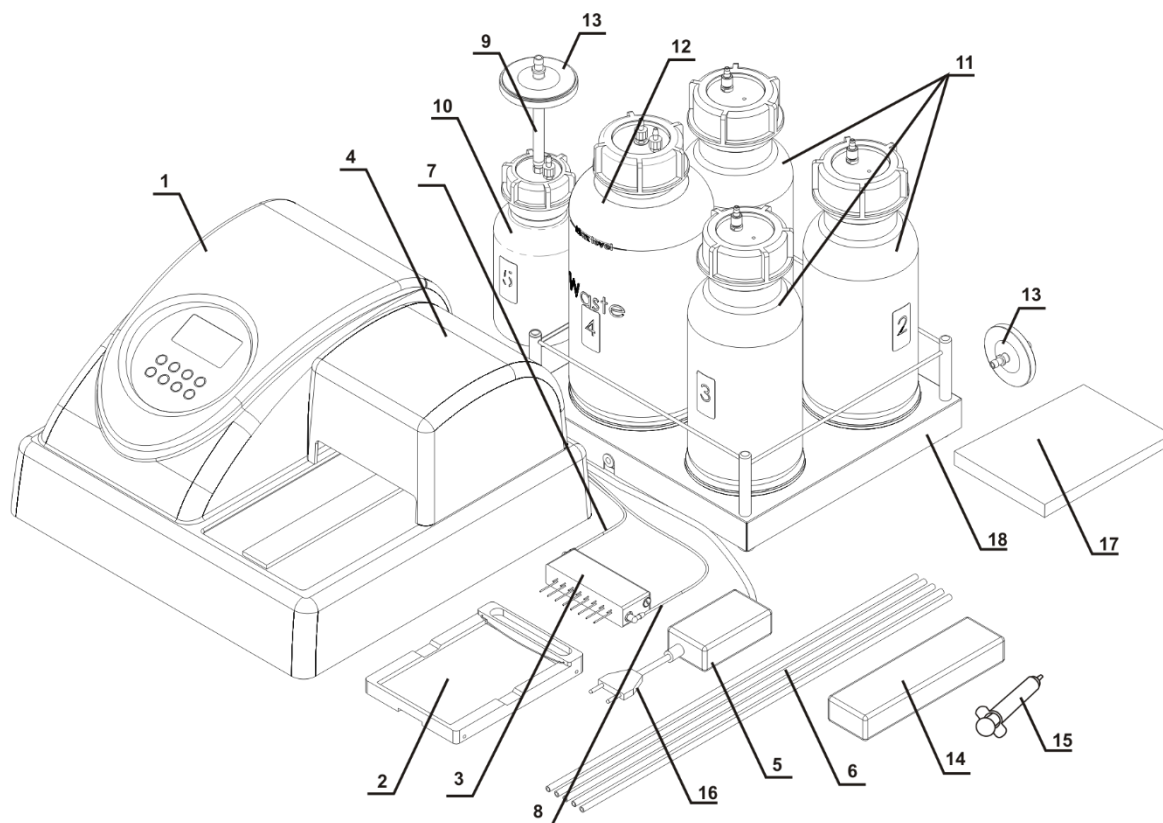
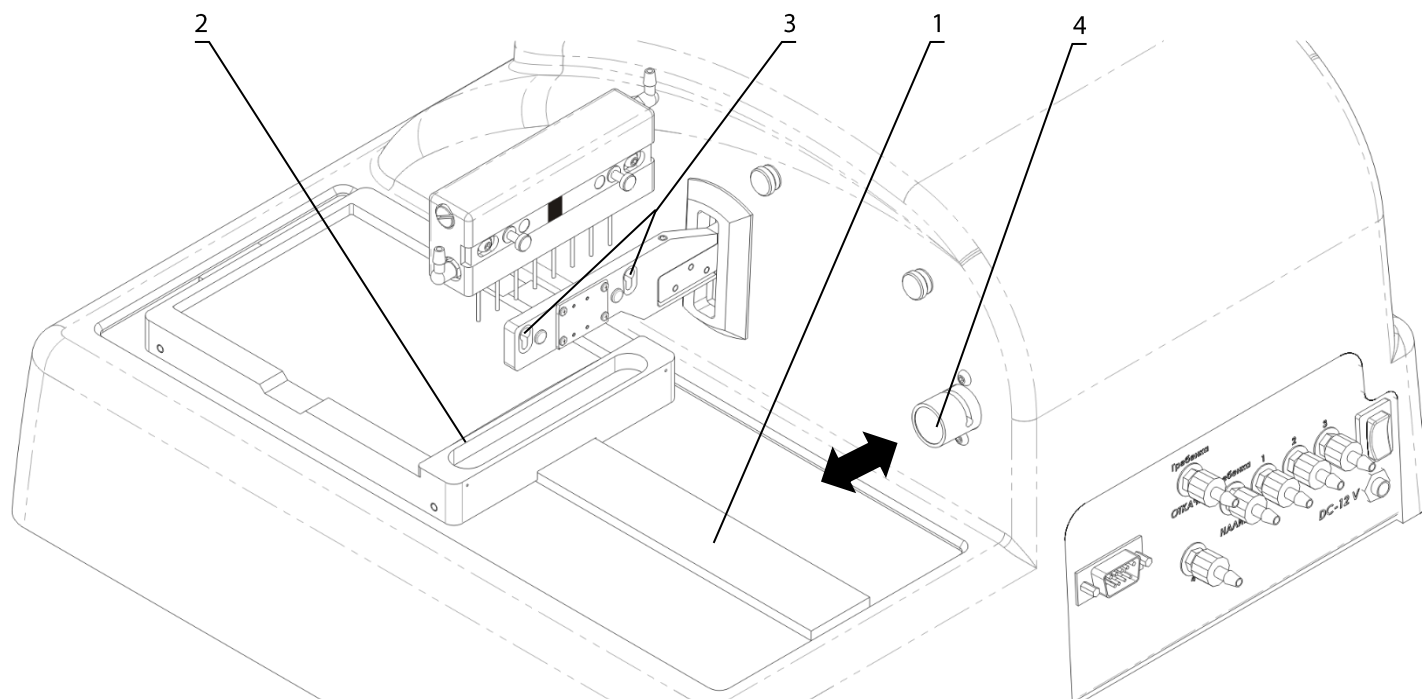
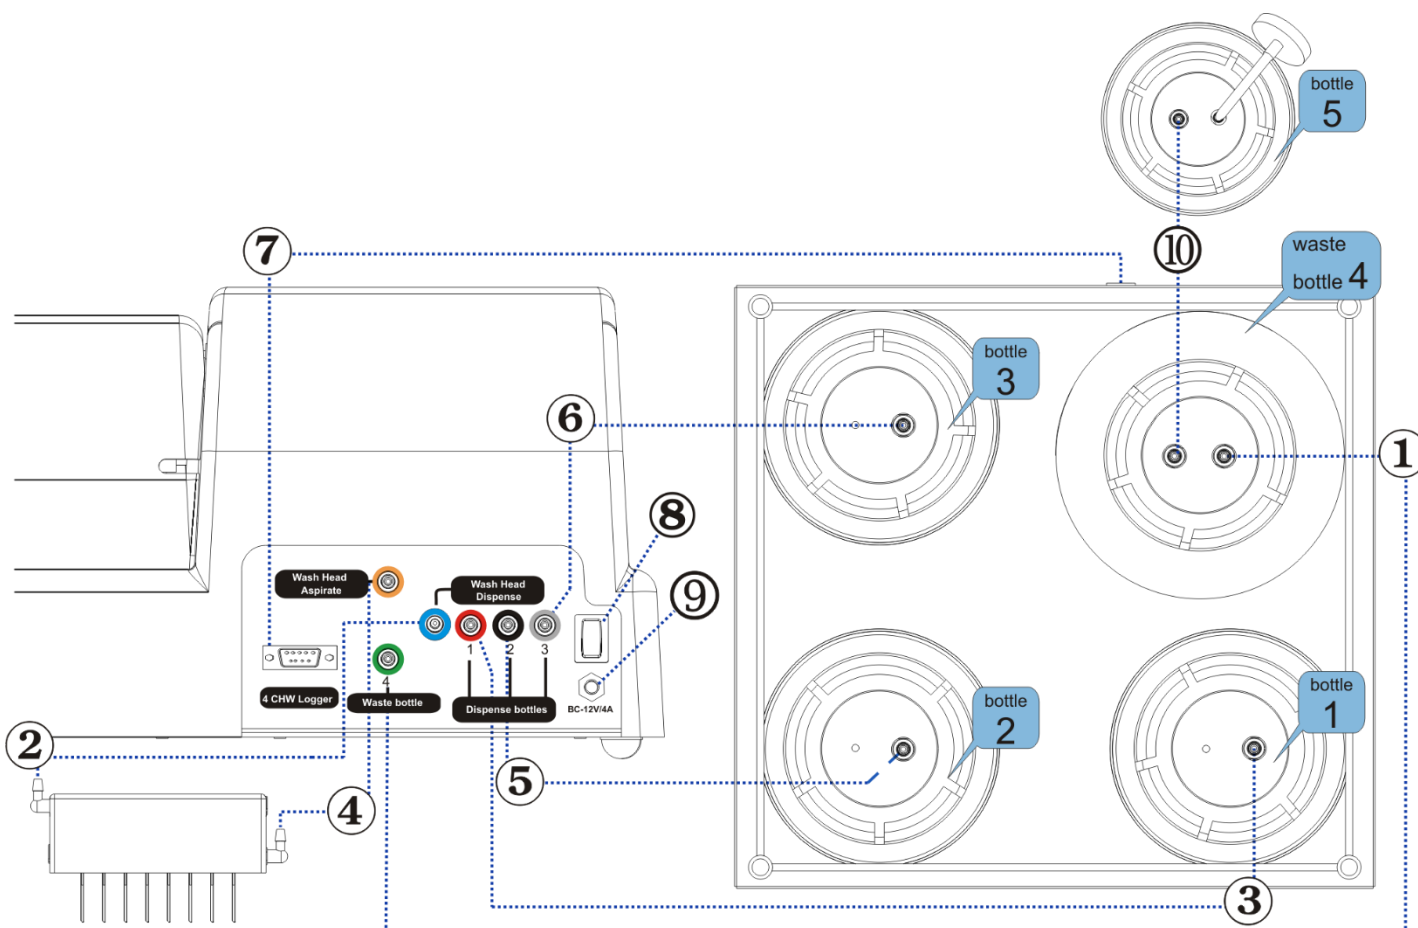

Fig. 1. Complete set
Fig. 2. Unit side and back overview. Setting up.
Fig. 3. Assembly diagram
- 3.4.4. Place the plate platform on the railing (fig. 2/1) so that the plate holder (flat spring) faces the rear side of the unit (fig. 2/2). Magnet on the other side of the rail locks the platform into start position.
- 3.4.6. Install the manifold in the slots of the holder arm (fig. 2/3). Magnets in the manifold and the holder arm connect and align the manifold.
- 3.4.7. Connect the manifold inlet connector supplying the liquid and the **blue**-colored **Washing Head Dispense** connector at the rear panel of the unit (fig. 3/2) with a tube (fig.1/7).
- 3.4.8. Connect the manifold outlet connector and the **yellow**-colored **Washing Head Aspirate** connector at the rear panel of the unit (fig. 3/4) with a tube (fig.1/8).
- 3.4.9. Connect the #4 **green**-colored **Waste bottle** outlet on the rear side of the unit to the connector of 2-litre bottle #4 for waste liquid collecting (fig. 3/1).
- 3.4.10. Place the tube for the hydrophobic filter (fig.1/9) on the connector of the half-litre bottle #5, then place the hydrophobic filter on the tube (fig.1/13). Check that the "IN" marking on the filter is facing the bottle #5 (fig. 11).
- 3.4.11. Connect the Waste bottle #4 to the half-litre bottle #5 (fig.3/10).
- 3.4.12. Connect bottle with buffer #1 to the inlet connector (#1 – **red**, fig. 3/3) with a tube (fig.1/6).
- 3.4.13. Connect bottle with buffer #2 to the inlet connector (#2 – **black**, fig. 3/5) with a tube (fig.1/6).
- 3.4.14. Connect bottle with buffer #3 to the inlet connector (#3 – **white**, fig. 3/6) with a tube (fig.1/6).
- 3.4.15. Insert the manifold tube (fig. 3/2) into the valve opening (fig. 2/4). Press the valve in the direction of the arrow and hold the valve while stretching the tube and pulling it through the opening. Release the valve.
- 3.4.18. If 4-channel weight logger is included in the kit, remove pads from underside of scale cups. Place bottles on the 4-channel weight logger according to the numbering. Connect the RS-232 with the cable to the plug connector on the rear side of the unit (fig. 3/7).
Before connectin the unit to the mains outlet, check that the power switch (fig. 3/9) is in position **O** (off).
- 3.5.1. Connect the external power supply to the power socket (fig.3/8) on the rear panel of the unit.
- 3.5.2. Connect the power cord to the external power supply unit (fig.1/16)